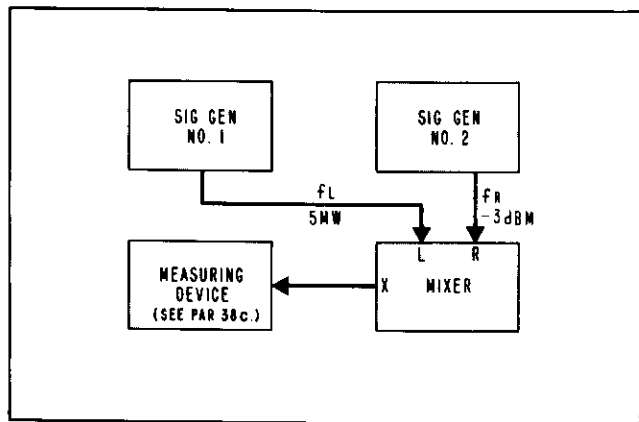

Figure 10. Test Setup-Conversion Loss
- 2) Set output level to be as shown in Figure 10 using RF Millivoltmeter (hp Model 411A or equivalent) terminated with 50-ohm resistive load.
b. Make connections as shown in Figure 10.